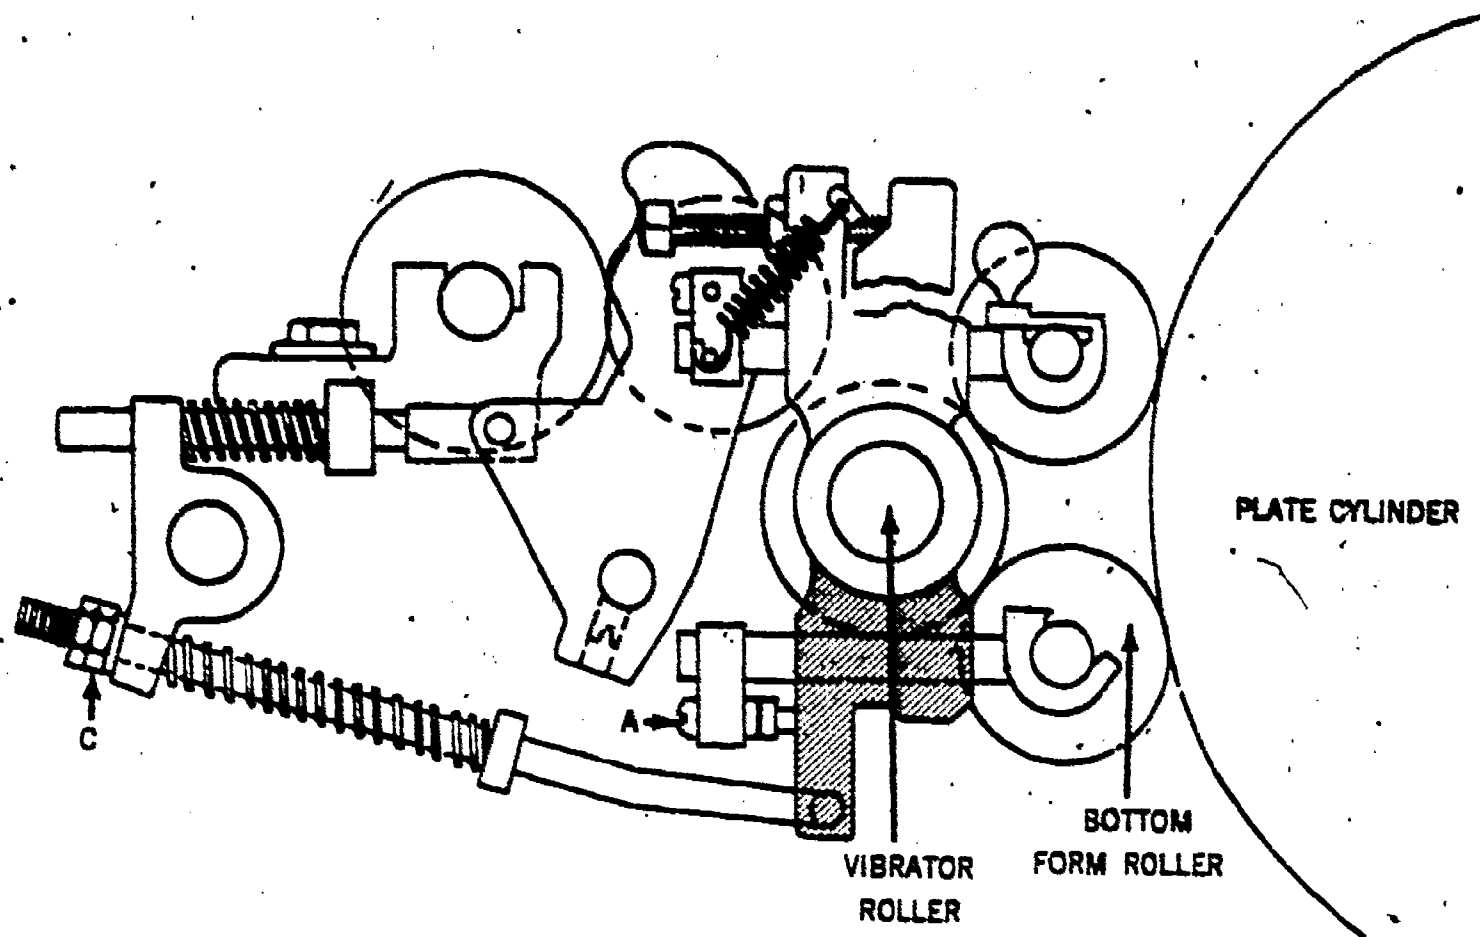

Figure 8-37. Setting and adjusting bottom form roller (dampening assembly).
1. *Setting to the vibrator.* Feeler strips are inserted between the form rollers and the vibrator roller approximately 2 inches from each end of the roller. Adjustments are made to the vibrator roller with the screw A (fig. 8-37). The adjustment is turned clockwise to decrease the pressure and counterclockwise to increase the pressure between the form roller and the vibrator roller.
handle. Feeler strips are inserted between the form roller and the plate cylinder approximately two inches from each end of the roller. Adjustments are made to the plate cylinder by turning the square headed bolts C (fig. 8-37). Turning the bolts clockwise decreases the pressure to the plate cylinder while turning counterclockwise increases the pressure between the form and the plate.